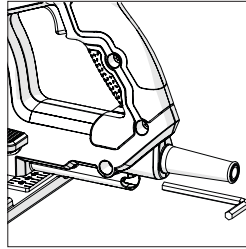

Fig. 1
- Locate the supplied Blade Change Hex Key, which is housed in the onboard storage facility (18) (Fig.1)